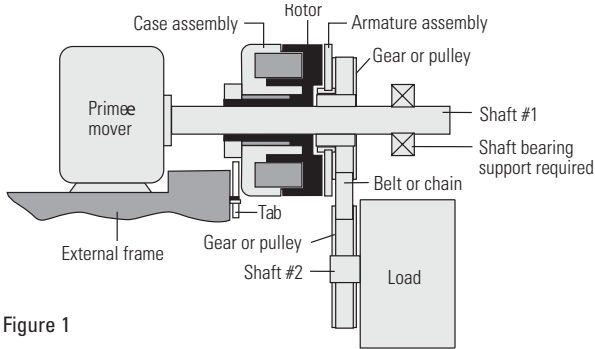

Figure 1
**Figure 1** - Used to couple two parallel shafts. The rotor and armature are mounted on the same shaft. The armature is bearing mounted on the shaft and is free to rotate independent of the shaft. The knurled hub can press fit a gear or pulley onto the armature assembly, which, in turn, drives the parallel shaft. The case assembly is bearing mounted and is provided with anti-rotation tab.